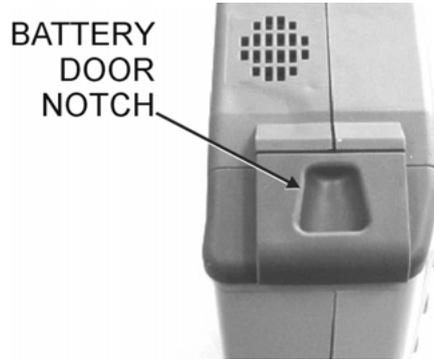
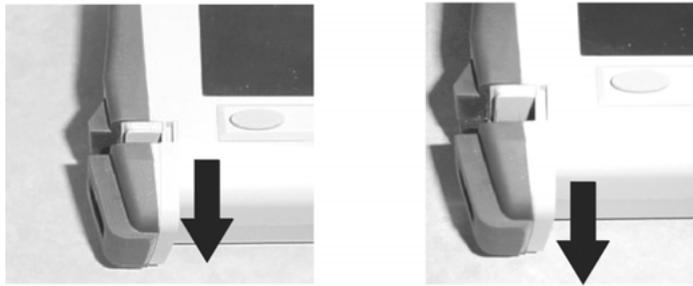

Figure 3-1. Battery Access Door Notch
Figure 3-2. Removing the Battery Access Door
1. With the MS203xA laying flat, face up, on a stable surface, locate the battery access door, as illustrated in Figure 3-1.
2. Place a finger in the battery access door notch and push the door down towards the bottom of the instrument, as illustrated in Figure 3-2.
2. Remove the battery door and battery as shown in Figure 3-1 and Figure 3-2.